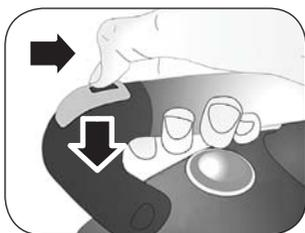

Fig. 6
- 1 Turn the steam adjustment knob (K) to "+" mark.
- 2 Set the ironing temperature by turning the adjustment knob (F) past the symbol (•••).
- 3 Wait for the indicator lamp (C) of the iron to turn off.
- 4 Wait for the steam ready light (M) to turn on.
- 5 Press the steam button (D). Move the cursor (E) towards the handle (Fig 6). The cursor (E) will lock the button, making the jet of steam exit continuously and steadily.